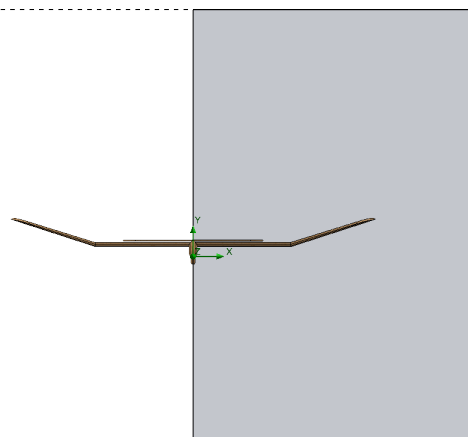

Fig. 13
Step 3. Click **Front** on the Views toolbar (Ctrl-1). Use **Z** key to zoom out to see domain, Fig. 13.
Step 4. **Only half the glider** should be inside the domain as shown in Fig. 13. This will reduce the solver time. Solver can take several minutes.